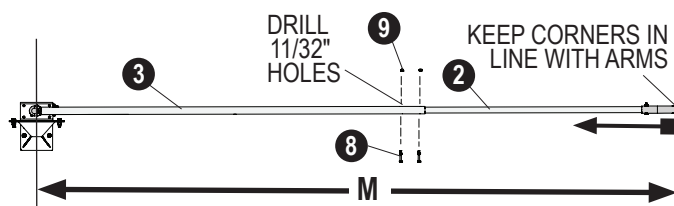

FIG. 106
- Insert the **upper arms (2)** into the **lower arms (3)**. Adjust the arms until they measure length "M".
- Secure the **upper arms (2)** to the lower arms (3) with **bolts (8)** and **nuts (9)**, as shown in Figure 106.